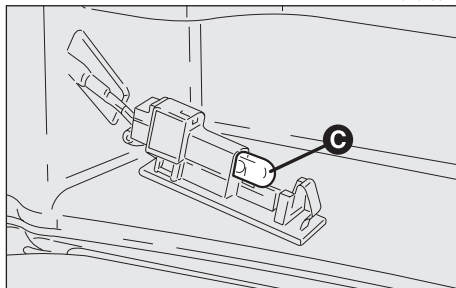

fig. 62
- Change the bulb (**C-fig. 62**) which is pressure-fitted.